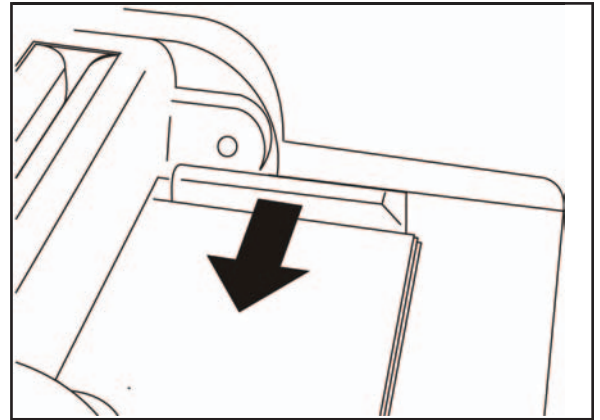

Fig. 7
3. Place the paper side guide by aligning it with the edge of the paper (fig. 7).